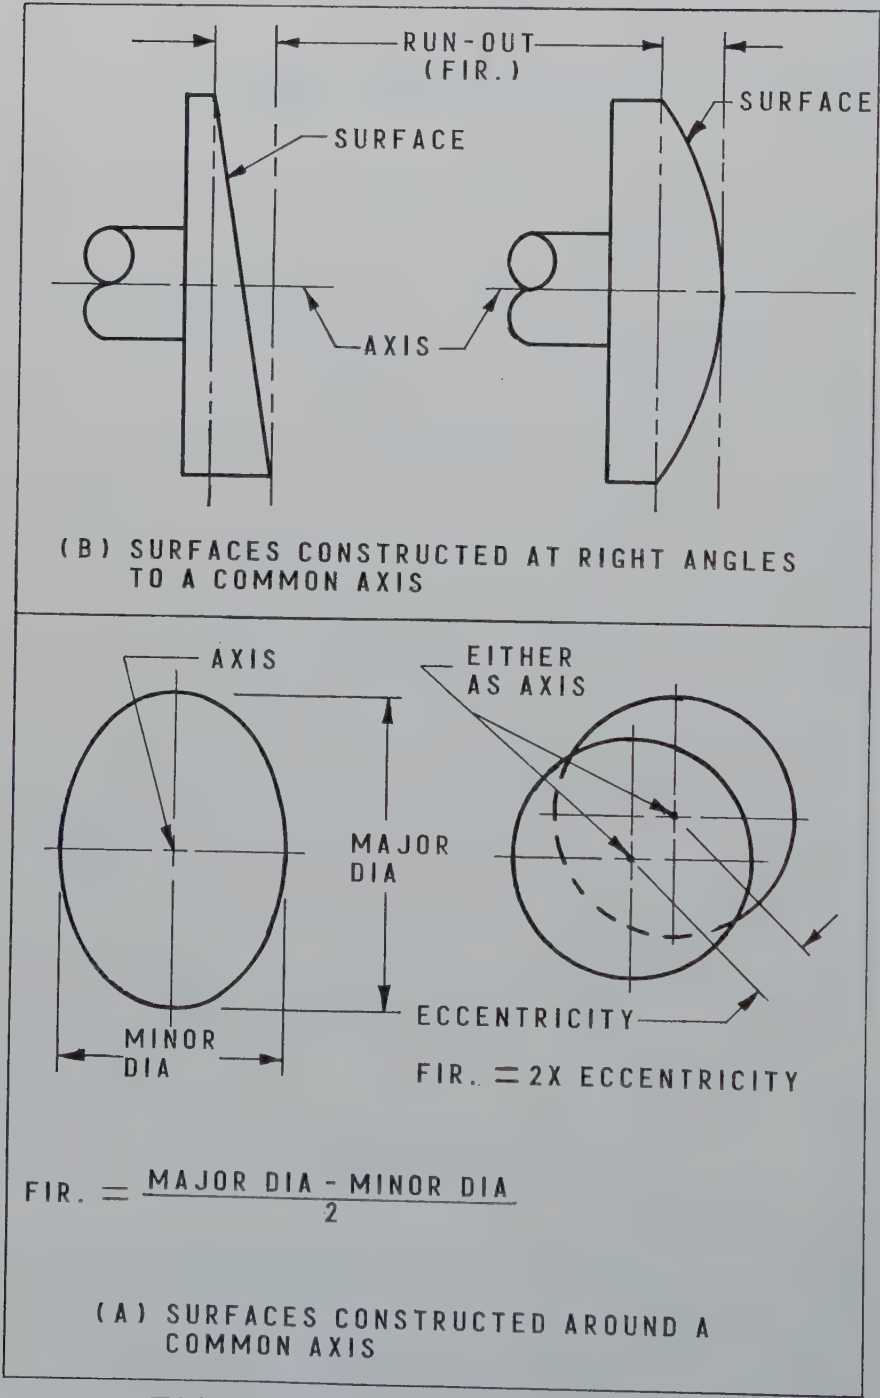

FIG. 8 RUN-OUT (FIR)
accumulates the errors of several geometric categories into one value. This is covered by that portion of the note which reads "within .XXX FIR." Fig. 8(A) illustrates surface runout that may result from out-of-roundness or eccentricity. The full indicator reading may be attributed to all out-of-roundness, all eccentricity, or a combination of both. Fig. 8(B) illustrates the surface runout or full indicator reading of surfaces constructed at right angles to the axis.